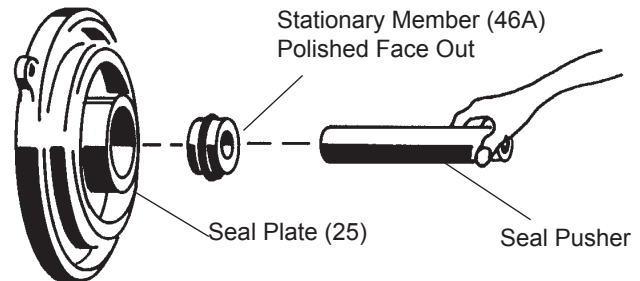

FIGURE 6
Position unit upright, using blocks to avoid resting unit on shaft. Unscrew cord hex bolts (6) and remove compression flange (10a) and power cord (10). Remove snap ring (8) with a flat head screwdriver. Pull the terminal block (27) out of the motor housing (2) using a T-bolt or pair of pliers and a .25-20 screw in the threads of the terminal block (27). Be sure to leave slack on the motor leads connected underneath. Use needle nose pliers to pull each female connector off of the pins on the underside of the terminal block (27) (see Figure 6). The unit voltage should be noted. Remove socket head cap screws (39). Vertically lift upper pump assembly from seal plate (25) by lifting handle (7). Inspect square rings (42) for damage or cuts.
Seal - Clean and oil seal cavity in seal plate (25). Press stationary member (46a) firmly into seal plate (25), using a seal pusher, nothing but the seal pusher is to come in contact with seal face (See Figure 6). Make sure the stationary member is in straight.